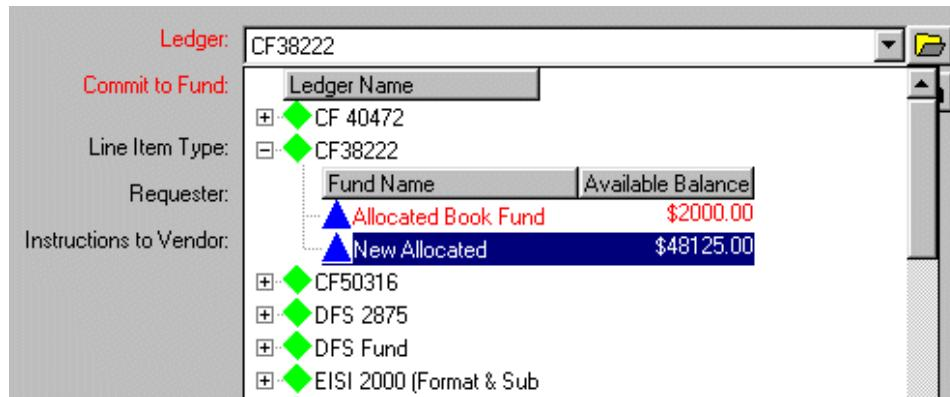

Figure 6-54. Ledger/Fund hierarchy displayed in the Ledger field
- If you want to select a fund from a ledger/fund hierarchy (Figure 6-54) rather than typing the fund code into the **Commit to Fund** field, click the **folder** button beside the **Ledger** field. This displays a hierarchy of available ledgers and funds. To aid you in selecting an appropriate fund, each fund's available balance displays within the hierarchy.